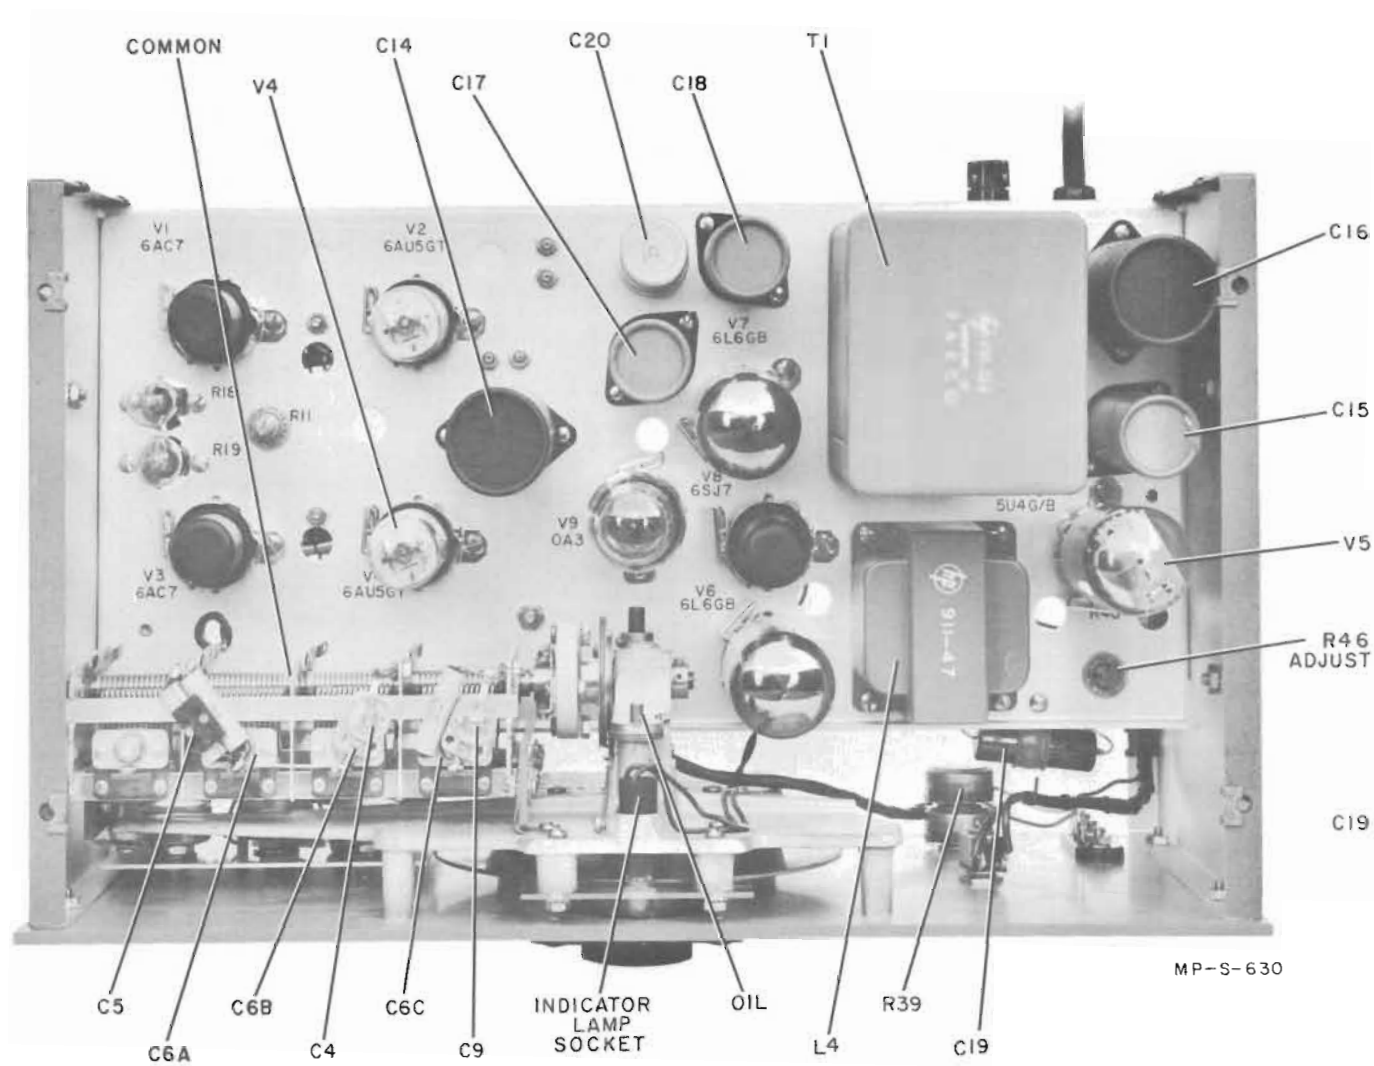

Figure 4-2. Top View Model 200T
2) Idler pulley bearing, one drop of light oil on pulley shaft. Idler pulley bearing is directly below indicator lamp socket (see Figure 4-2).
| c. Short circuit in tuning capacitor C6, variable C4 or C9, or fixed capacitor C5 or C8. | <p>To check capacitors C6A, 6B, 4 and 5:</p> <ol style="list-style-type: none"> (1) Disconnect Model 200T from line. (2) Connect one ohmmeter lead to C6 terminal designated C6B on Figure 4-2 and other to chassis. (3) Set RANGE switch to AX100. (4) Ohmmeter should indicate approximately 480K. <p>To check capacitors C6C, C8, C9:</p> <ol style="list-style-type: none"> (1) Connect one ohmmeter lead to point on C6 designated COMMON on Figure 4-2 and other to chassis. (2) With 200T disconnected from line and RANGE switch on AX100, ohmmeter should indicate approximately 1.018M. | If resistance measurements indicate short, before making further checks, visually examine C5. If C5 is dirty, with air hose gently blow dust from plates and then again make resistance measurements. |
| d. Capacitor C6 shorted to ground. | <p>Connect one ohmmeter lead to C6 terminal designated C6C on Figure 4-2 and other to chassis.</p> <p>With 200T disconnected from line and RANGE switch at any setting, ohmmeter should indicate approximately 10K.</p> | If resistance measurement indicates short, check for defect in insulation between C6 and instrument chassis. |